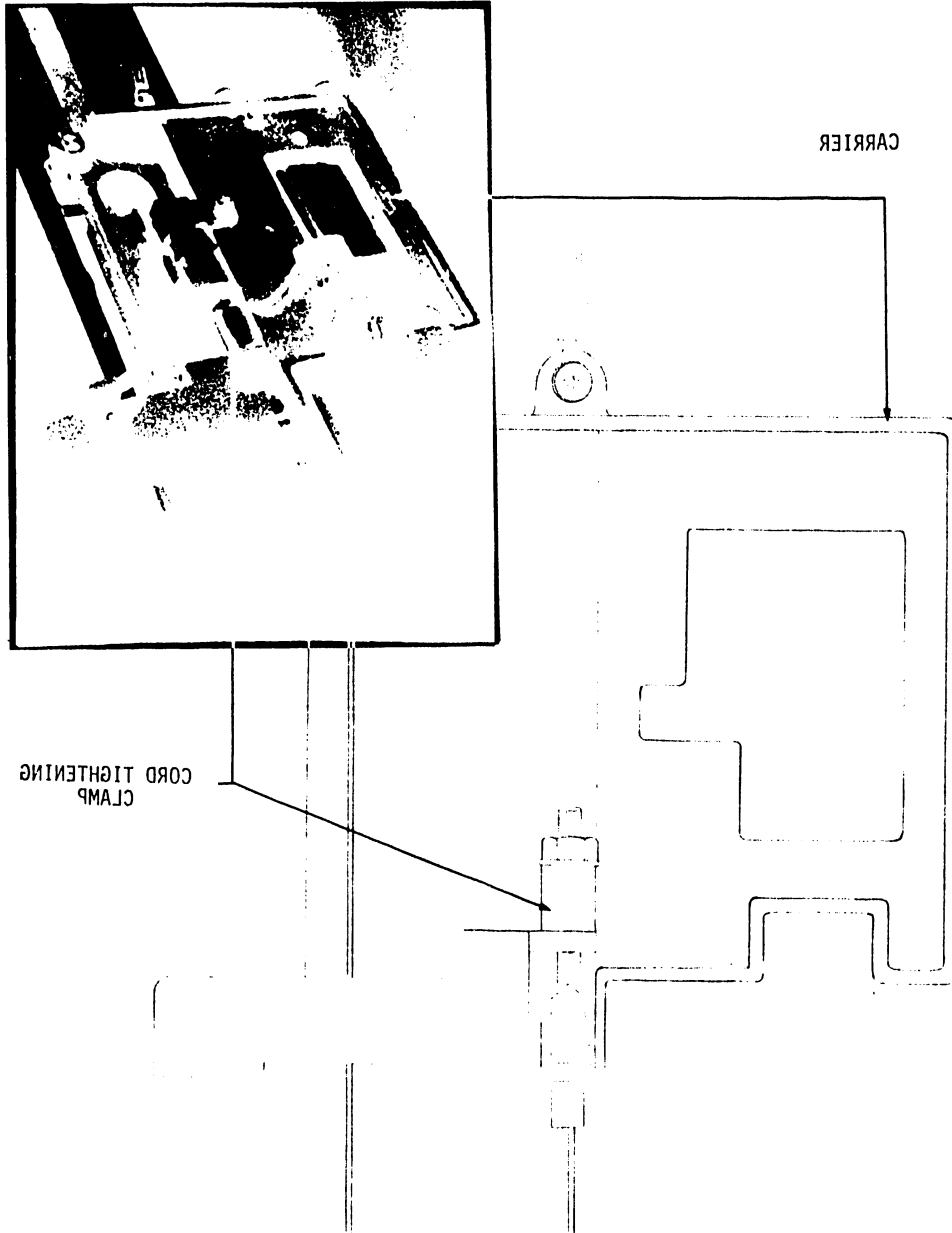

FIGURE 14
- (a) In order to expand the drum, it is necessary to release the cable stress on the drum. To release this pressure, place the carrier somewhere in the middle of the Y arm (arm disconnected from table and laying upside down - SEE 5.17 FOR Y ARM REMOVAL) and loosen the cable tightening clamp underneath the carrier (See Figure 14). Loosen the coils of cable looped around the drum. Since expansion of the drum requires Y arm removal, it is suggested that when the drum is expanded, it is expanded more than necessary. The diameter can then be decreased until the correct diameter setting is reached, section 5.13 #2 (c).